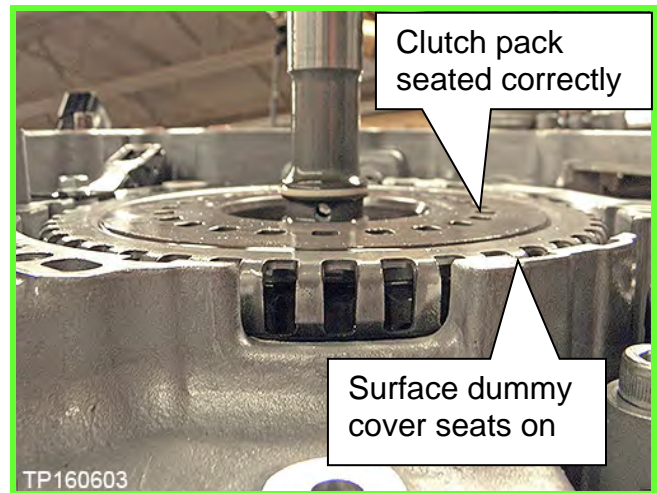

Figure 1L
- Figure 1L shows clutch pack fully seated.